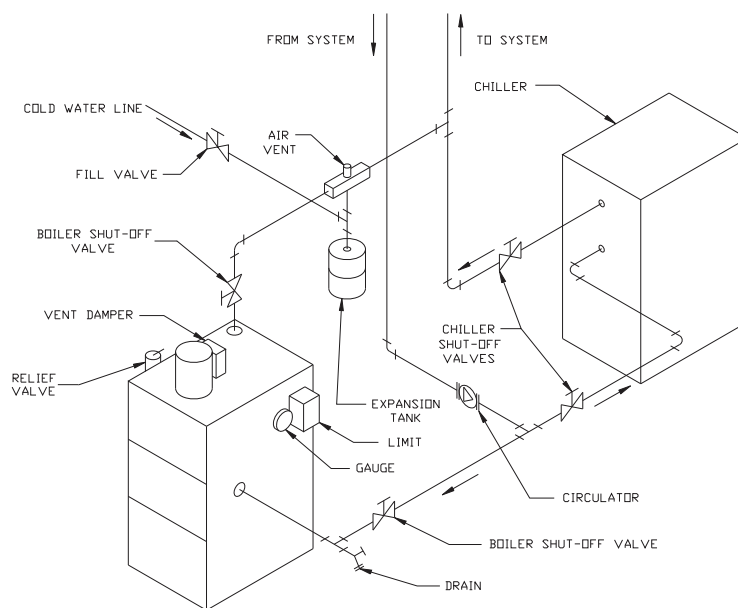

FIGURE 15: BOILER PIPING WITH CHILLER
- 5) Piping with a Chiller - If the boiler is used in conjunction with a chiller, pipe the boiler and chiller in parallel as shown in Figure 15. Use isolation valves to prevent chilled water from entering the boiler.